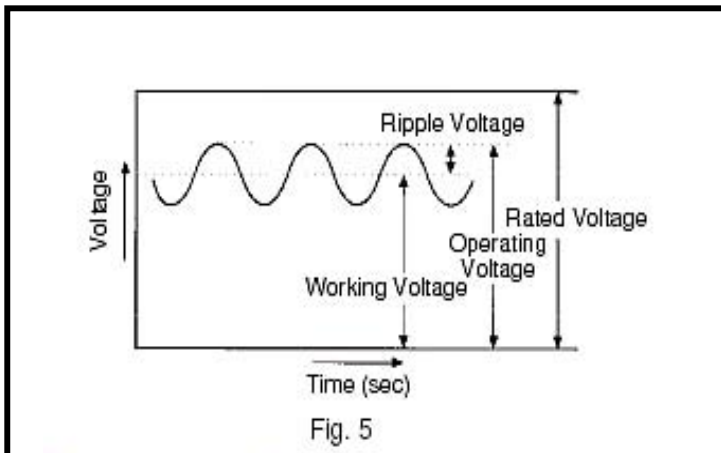

Fig. 5
- ▷ The tantalum capacitors must be used in such a conditions that the sum of the Working Voltage and ripple voltage peak values does not exceed the rated voltage (Fig. 5)